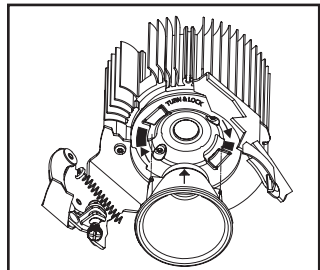
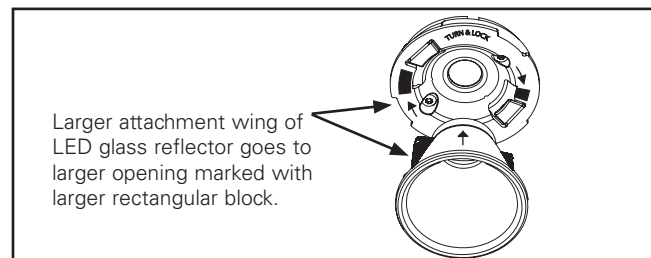

Figure 13. Position Reflector
Figure 16. Detailed View
2. Position LED Reflector so that the larger attachment wing aligns with the larger opening in the Reflector Retention Ring. The larger opening is marked with a solid rectangular block (Figure 13. and Figure 16.).